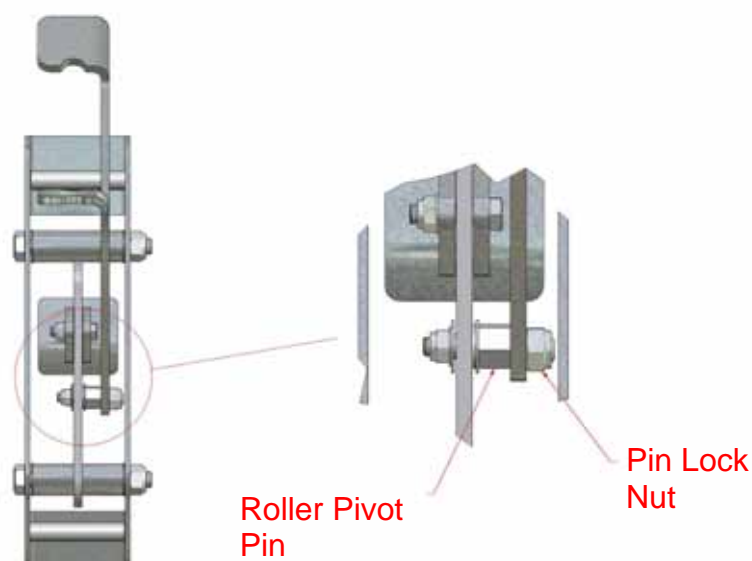

Figure 28, Catch Detent Adjustment
- If the Locking Catch detent should wear preventing the catch from remaining in the unlocked position, the Roller Pivot Pin can be adjusted to increase the detent force. Slacken off the Pin Lock Nut and rotate the Roller Pivot Pin 1/8 of a turn, Figure 28. Tighten the Pin lock Nut and test, repeat if necessary.